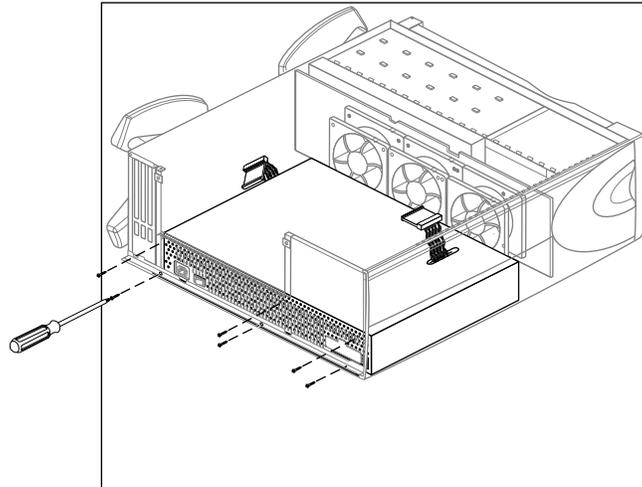

Figure 5-14 Removing the Origin200 Power Supply Screws
4. Using a #2 Phillips screwdriver, remove the screws that secure the power supply to the chassis, as shown in Figure 5-14. There are six screws at the rear of the power supply.